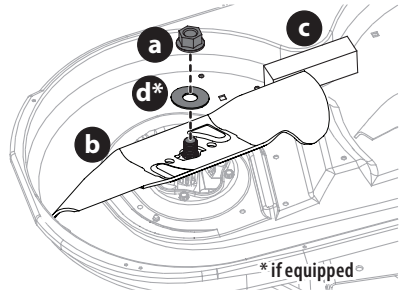

Fig. 51
2. Place a block of wood (c) between the deck housing and the cutting edge of the blade (b) to help in breaking loose the hex nut (a) and washer (d)\* securing the blade (b). Use a 15/16 inch wrench to loosen the hex nut (a) and washer (d)\* (Fig. 51).
3. When re-installing blades, be sure of the following (Fig. 51):